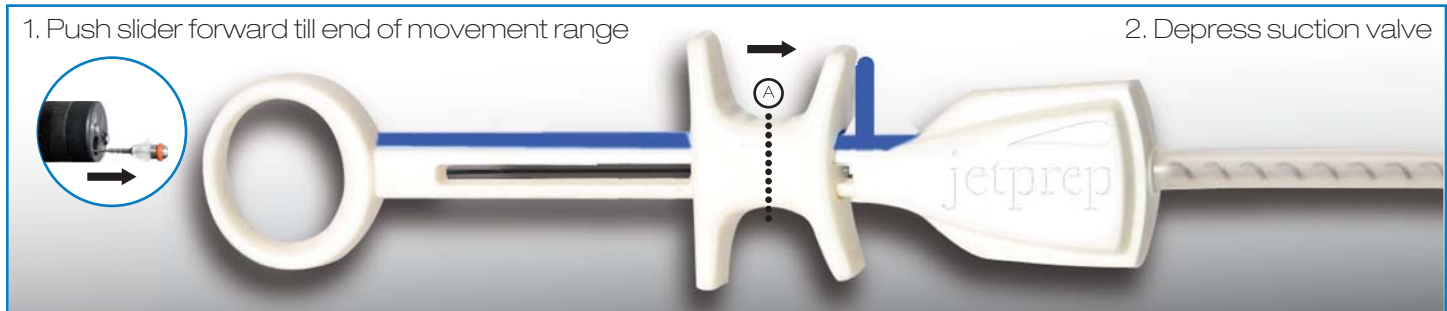

Figure 4: For aspiration, handle slider is moved to Position A.
NOTE: If distal tip does not appear on the video monitor (i.e. distal tip remains inside the endoscope), push the slider fully forward (to position A, as depicted in Figure 4). If the distal tip does not appear when slider is located in position A as well, deliver a small volume (several ml) of fluid to aid in tip positioning, as fluid will push the tip out.
- 7.2. To allow aspiration, place the JET PREP® Flushing Device distal tip outside the working channel by pushing the handle slider all the way forward to position A (see Figure 4), and vacuum.